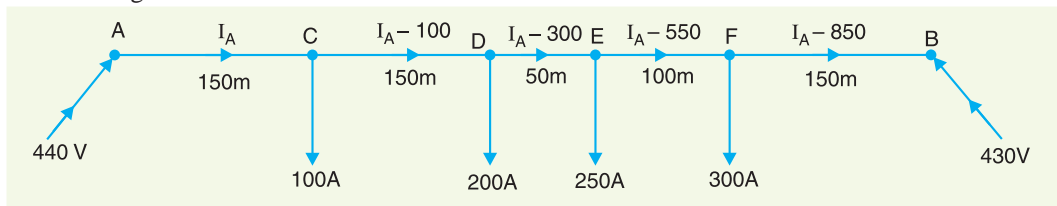

Fig. 13.21
**Solution.** Fig. 13.21 shows the distributor with its tapped currents. Let  $I_A$  amperes be the current supplied from the feeding point  $A$ . Then currents in the various sections of the distributor are as shown in Fig.13.21.